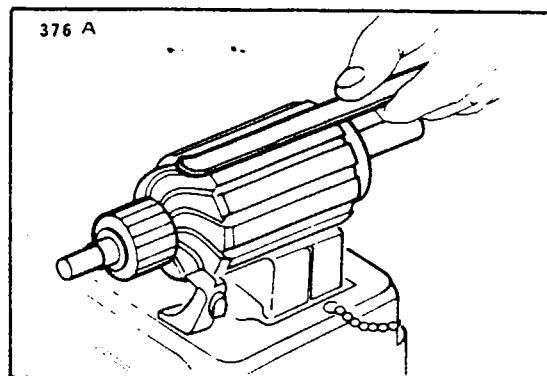

Figure 11-41. Testing Motor Armature for Shorts
c. To test for shorted armature coils, a growler is used. (Refer to Figure 11-41.) The armature is placed on the growler and slowly rotated by hand while a steel strip is held over the core so that it passes over each armature core slot. If a coil is shorted, the steel strip will vibrate.